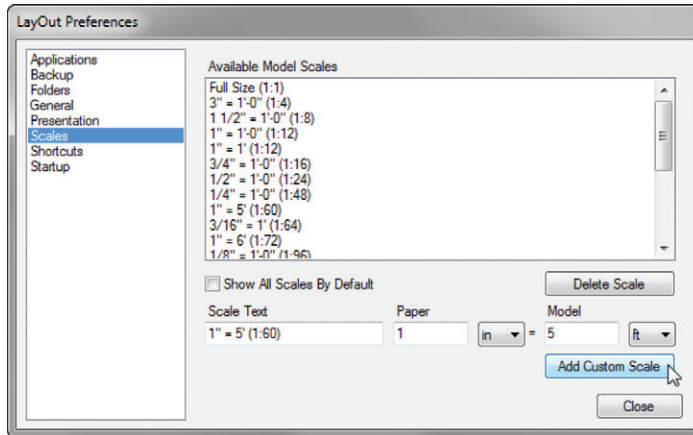

Figure 17.7 Add an irregular scale in the Preferences dialog.
3. This automatically launches the LayOut Preferences dialogue box. Technically, $1/4''$ scale is equivalent to $1'' = 4'-0''$, so try to work one level up; $1'' = 5'-0''$ fits perfectly (Figure 17.7).